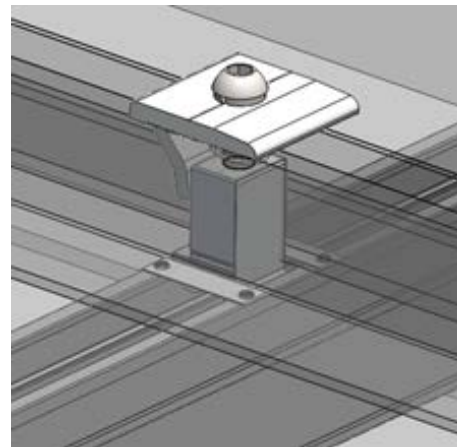

Figure 33
Step 4 When using as an Inter Clamp, click the Universal Clamp into the rail channel and slightly lift the framed PV Module to ensure the Grounding Clip is fully covered as shown in Figure 33.